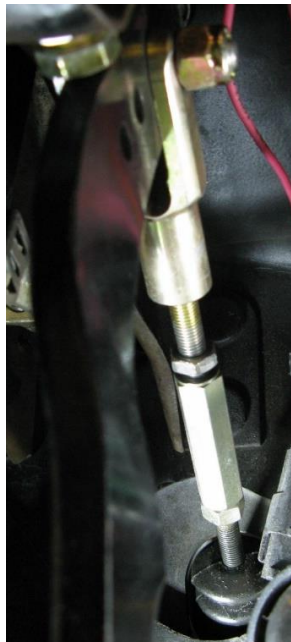

Figure 4 - Inside Vehicle
- Adjust the push rod length to adjust the brake pedal height to your preference. If the pushrod interferes with the pedal arm, you may need to trim the threaded end of the pushrod for the correct pedal height (Figure 4). Tighten all of the hardware on the push rod.